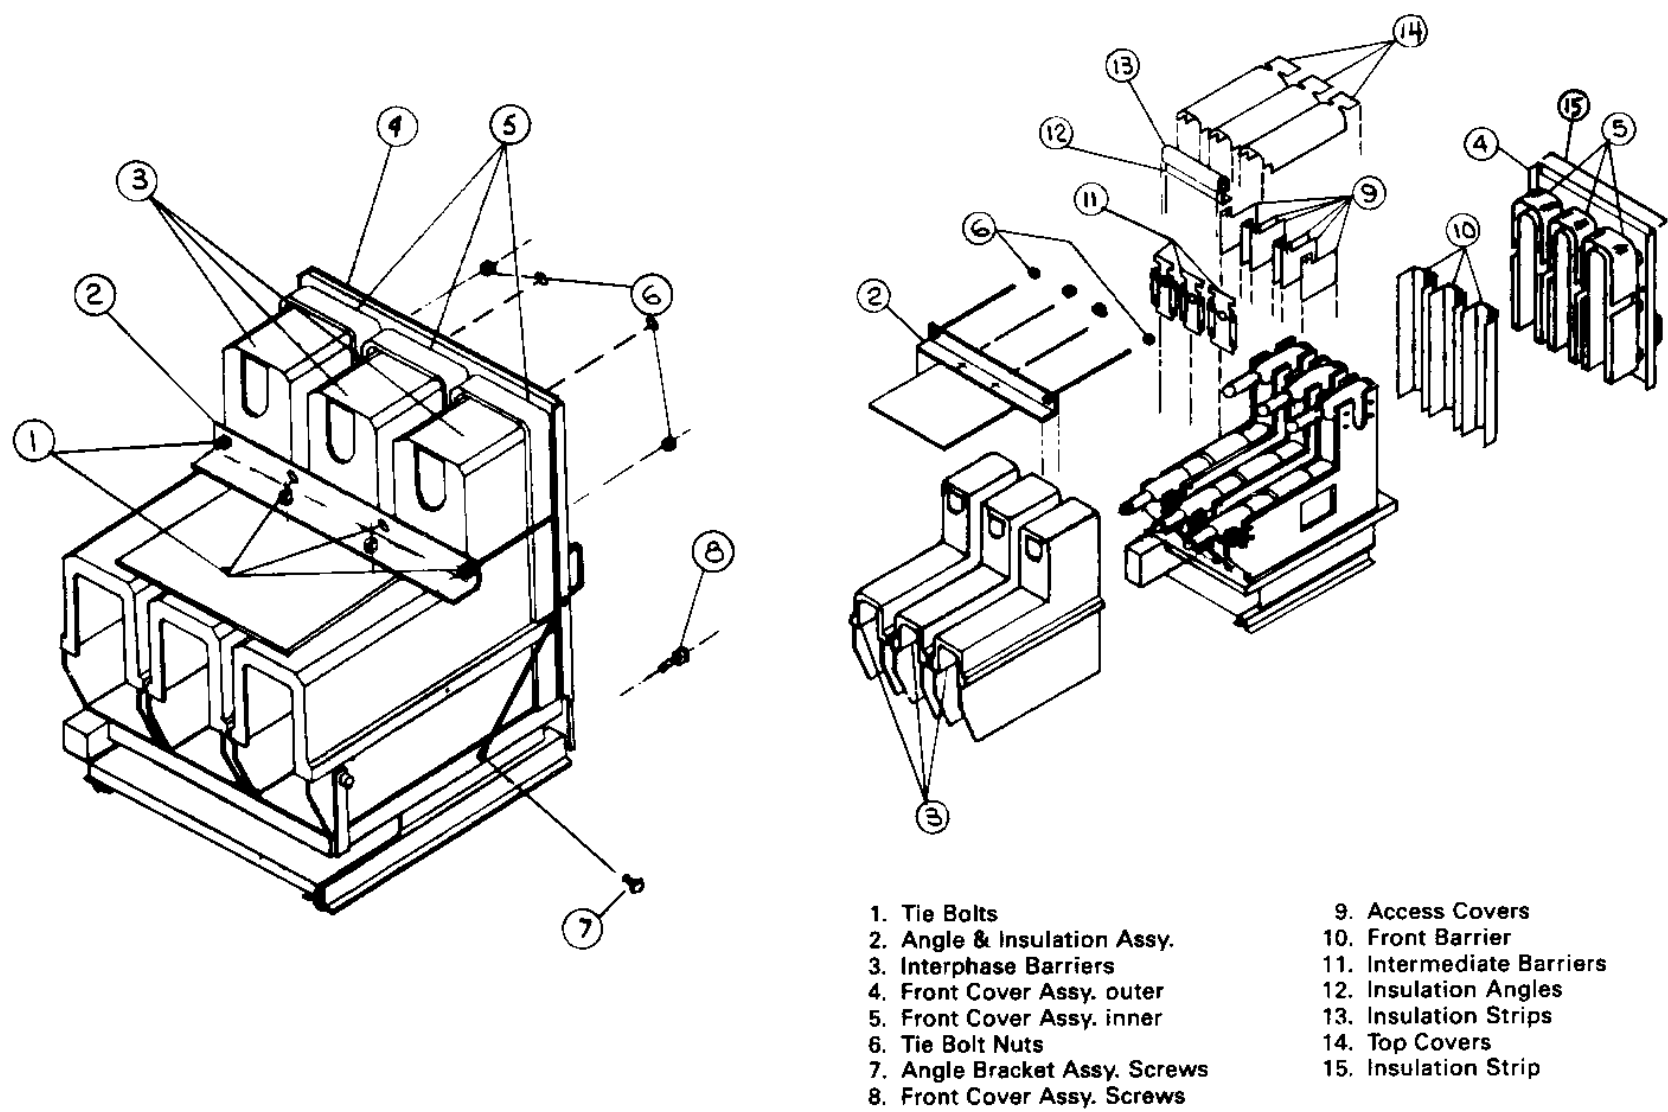

Fig. 2—Insulation Barrier Assembly
THE INTERPHASE BARRIERS AND INSULATION PARTS (FIGURE 2) MUST BE REMOVED FOR ACCESS TO AND INSPECTION OF THE VACUUM INTERRUPTERS AND THEIR ASSOCIATED ADJUSTMENTS.
3.3 REMOVING INTERPHASE BARRIERS AND INSULATION (See Fig. 2)
3.7 INSTALLING INTERPHASE BARRIERS AND INSULATION (See Fig. 2)